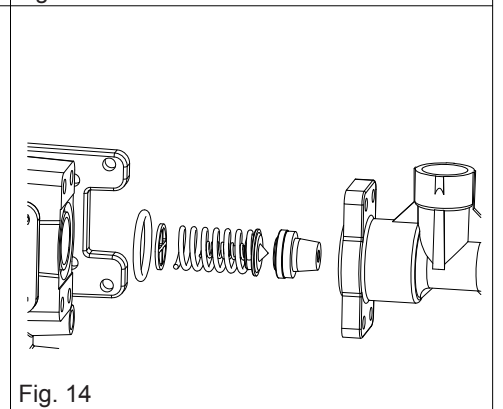

Fig. 14
- Insert the valve and the large spring, taking care with the direction of the insertion (fig. 14) and making sure that the drilled